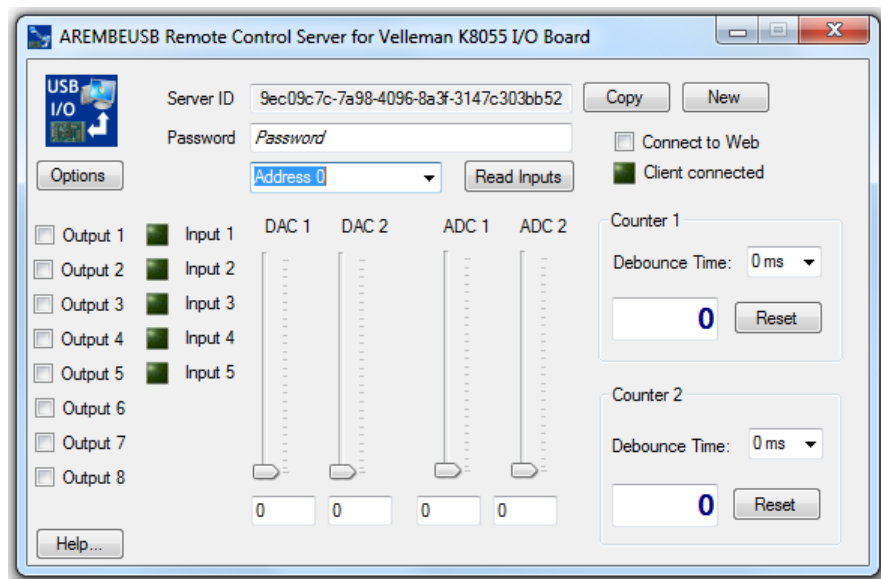

Figure 2-4, Remote Control Server Program
- 3) If you have already purchased and activated a copy of the AREMBEUSB ActiveX Control that is needed by the server program then it will start and display the main dialog (figure 2-4).
Click the **OK** button to close the dialog and the Remote Control Server dialog, shown above in figure 2-4, will be displayed.